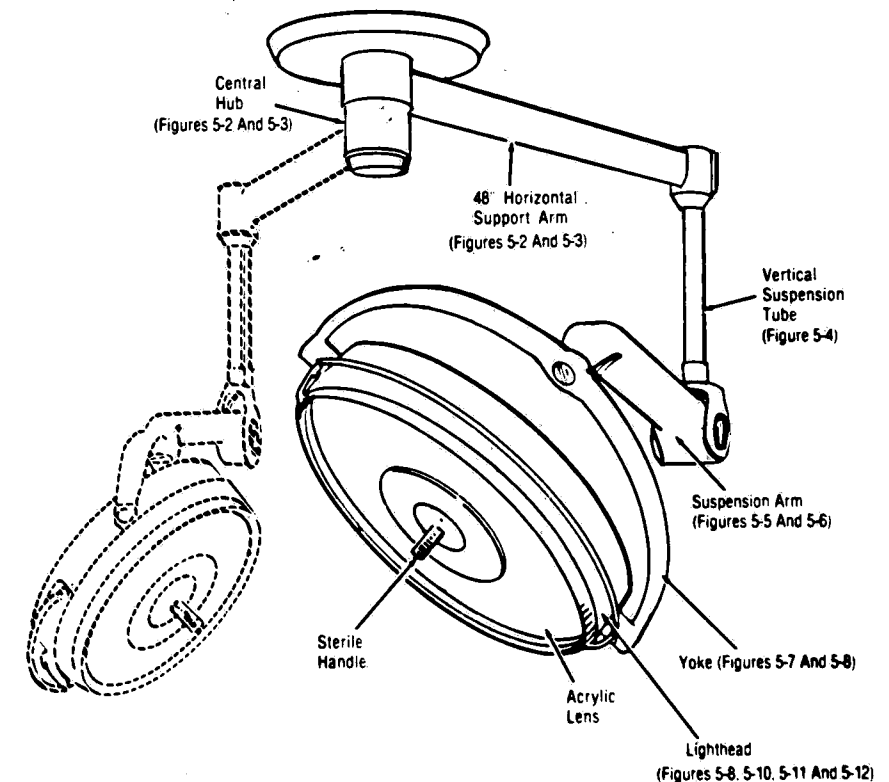

Figure 5-1. GENERAL ASSEMBLY.
1. Determine the function and application of the part required. Refer to Figure 5-1 and select the most appropriate title. Note the illustration reference number.